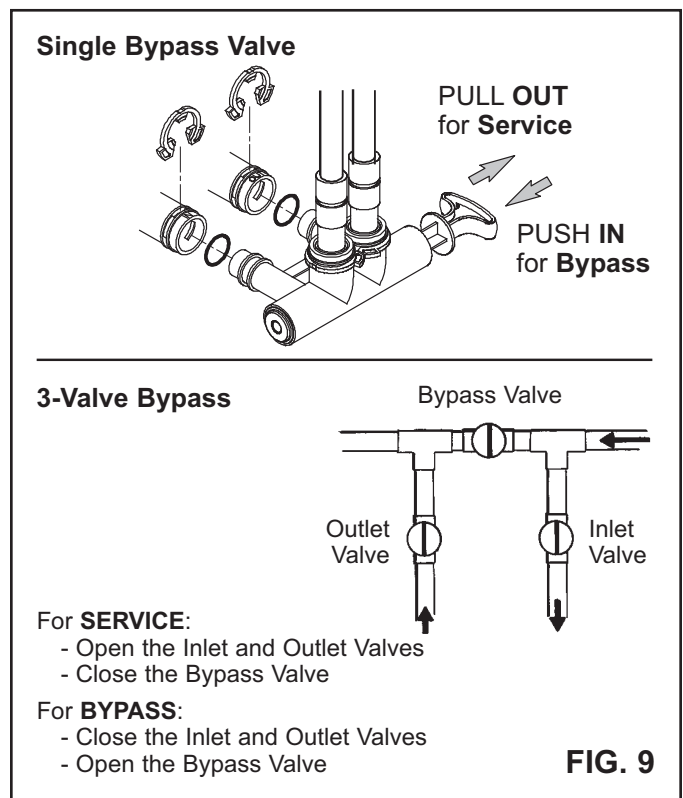

FIG. 9
- Referring to Figure 9, place the bypass valve(s) in "service".